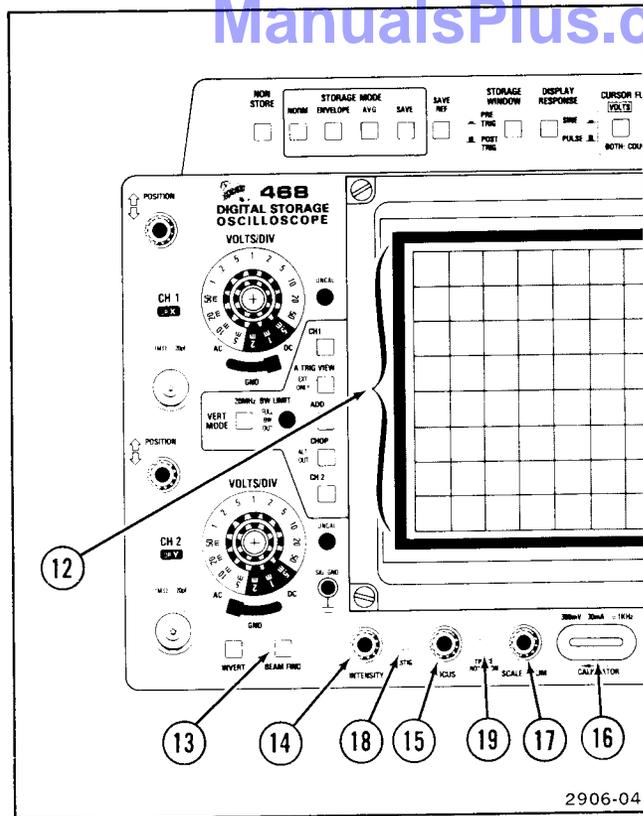

Figure 4. Display controls and CALIBRATOR.
Refer to Figure 4 for location of items 12 through 19.